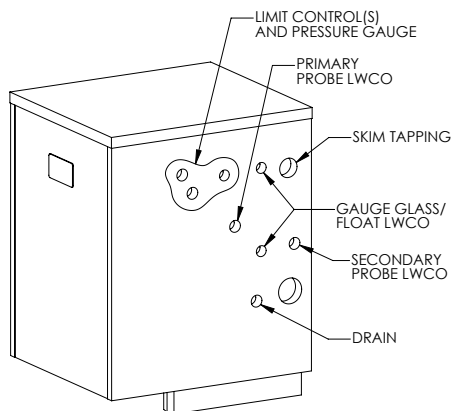

Figure 6.2: Steam Boiler Tapping Location
Install the 3/4" drain valve provided into the drain tapping on the right hand side of the boiler. Refer to Figure 6.2 for tapping location.
Install the optional probe type low water cut-off into the 3/4" tapping on the right side of the boiler. Refer to Figure 6.2 for tapping location.
- a. Install the operating limit control and pressure gauge in the 3/4" tappings located on the right side of the boiler. Refer to Figure 6.2 for tapping location.